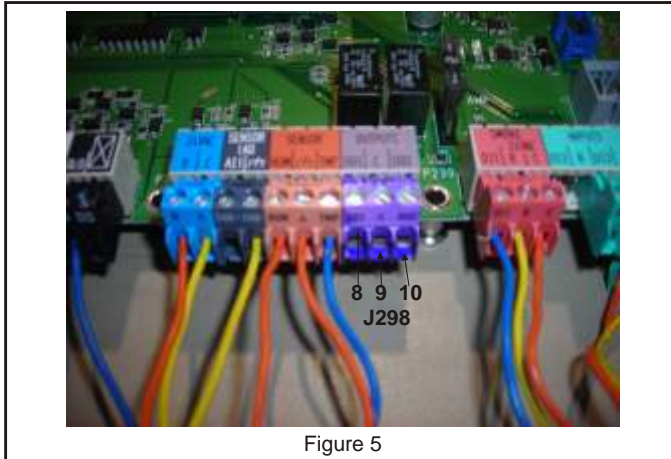

Figure 5
- E. Route wire through the control section down to the IMC2 control board. Strip the wire ends 3/8" if they have not been pre-done. Place the Green wire under screw terminal at J298-8 (Purple connector). Do the same routine for Pink at J298-10 and Black to J298-9. **See Figure 5.**